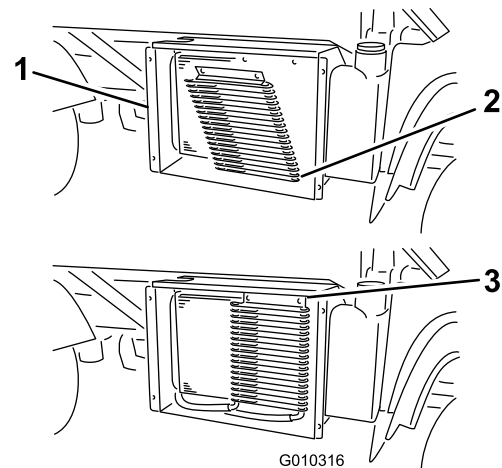

Figure 49
5. If equipped with a high flow hydraulic kit, rotate the latches and pivot the oil cooler away from the radiator (Figure 49).